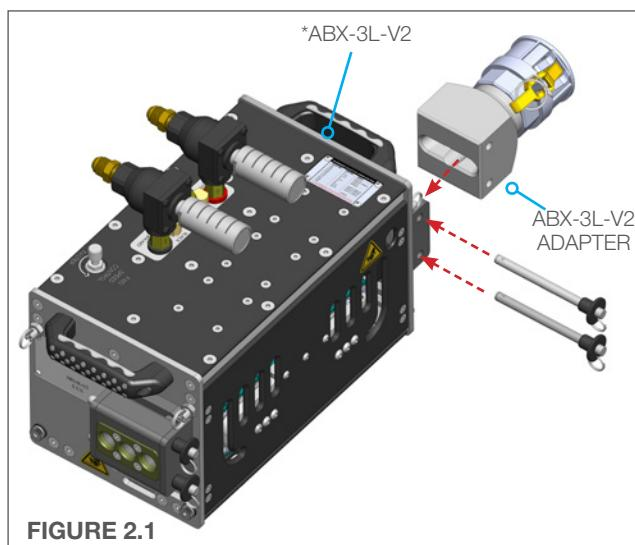

FIGURE 2.1
3. If NOT using the Air Knife accessory; insert the plastic end of the Snout Adapter into the Mounting Bracket on the ABX-3L-V2, align the holes and insert the Quick Release Pins through both parts and lock into place. (**Figure 2.1**)